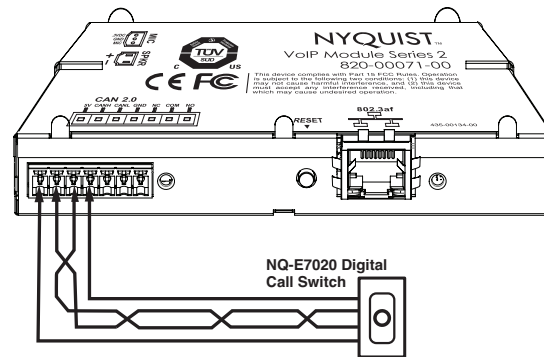

Figure 3
5. When applicable, use the pluggable CAN bus connector to attach one or more NQ-E7020-G2 Digital Call Switches to the Nyquist VoIP Module 820-00071-00, as shown in Figure 3.